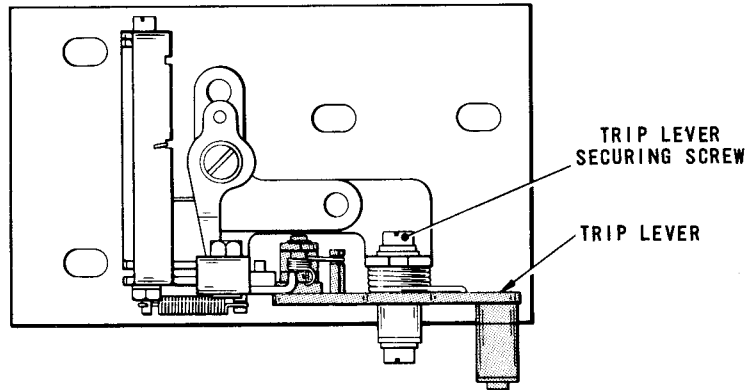
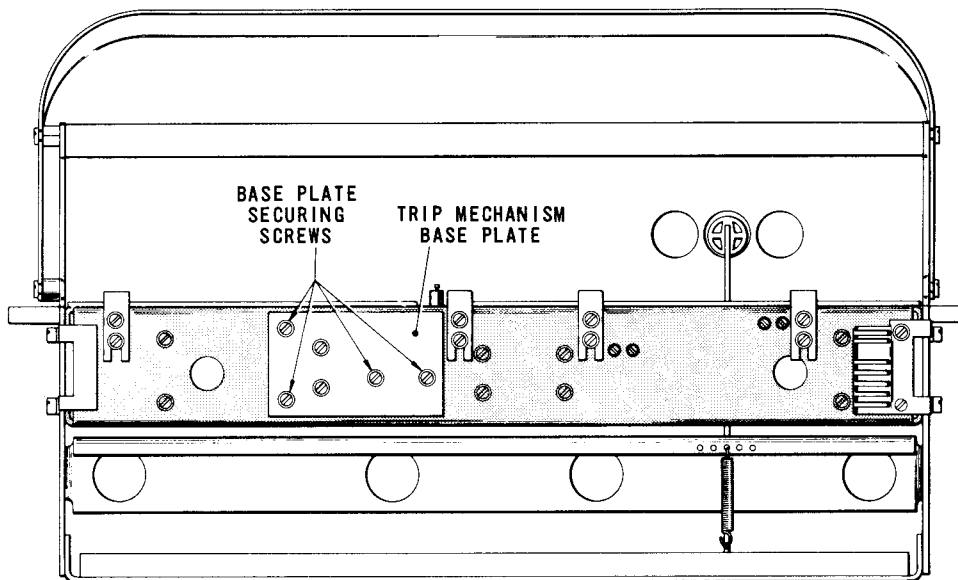

Fig. 4.15 KEYBOARD TRIP MECHANISM
Fig. 4.16 KEYBOARD—UNDERSIDE VIEW
- 20.2 If these conditions are not present, ensure that all the keybars are straight and parallel to each other. Slacken the four screws securing the trip mechanism base plate, Fig.4.16, and alter the rest position of the combination bars by repositioning the trip mechanism, Fig.4.15. When both conditions have been met, tighten the four base plate screws.
- 21.2 To adjust, insert a screwdriver through the hole at the rear of the keyboard main frame, slacken the trip lever securing screw, Fig.4.15, and lever the trip lever pivot up or down as required. Tighten the screw.